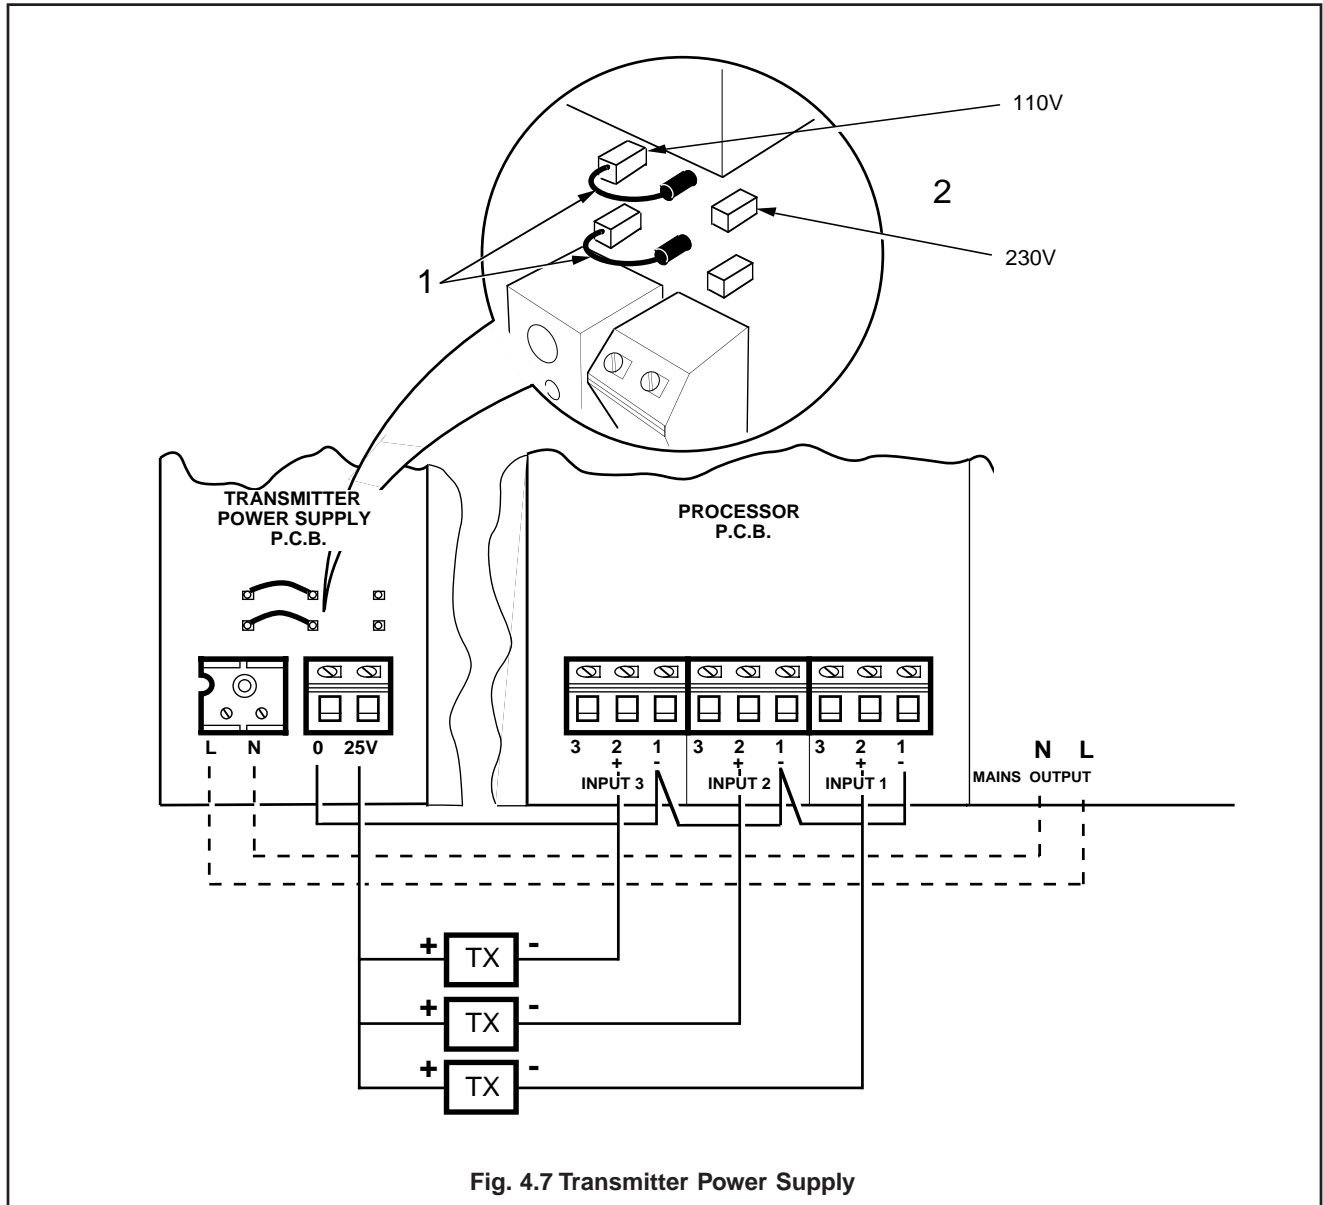

Fig. 4.7 Transmitter Power Supply
4.3.6 Transmitter Power Supply – Fig. 4.7
The transmitter power supply occupies one of the module positions and can provide a common supply for up to three two-wire transmitters as shown in Fig. 4.7. Make connections as shown. Note that the connections shown dotted are made before despatch and must not be disturbed.
With reference to Fig. 4.7: